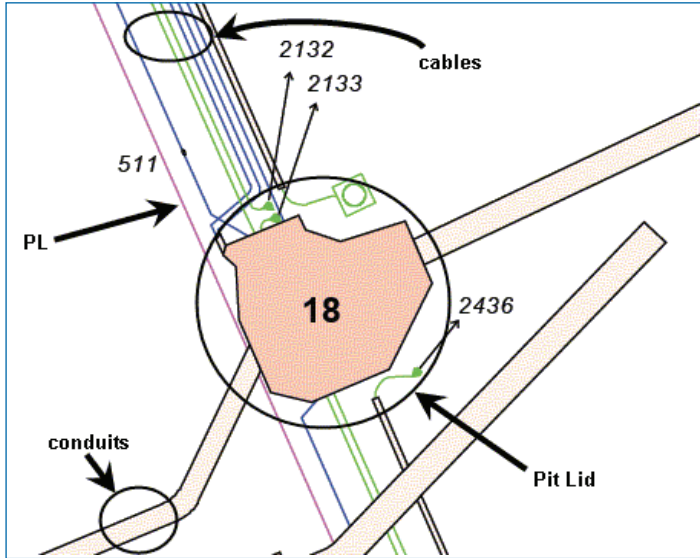

Figure 8
Underground "pits" are numbered on Ausgrid plans, positioned relative to the "property line" (PL), and can be found on either the footpath (nature strip) or the road (see figure 8).